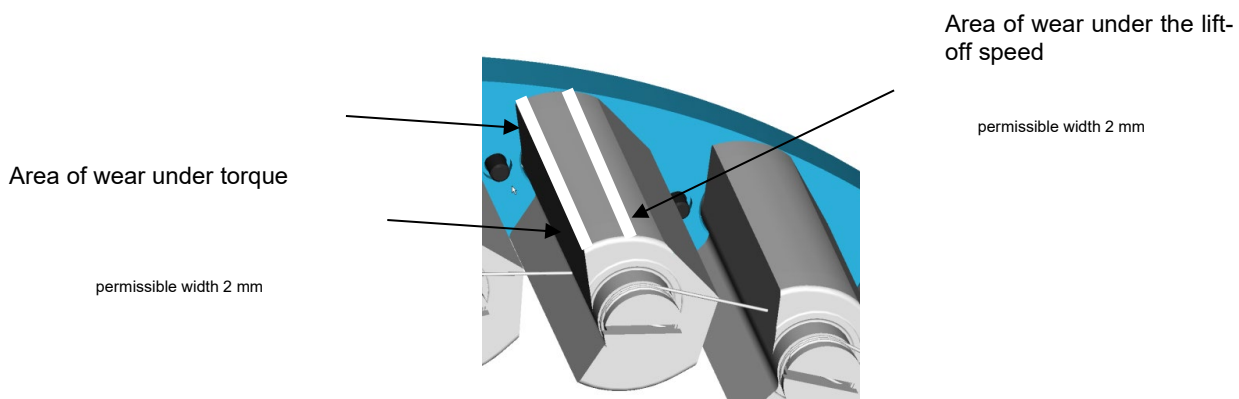

Figure 8: wear zones
- Pre-clean the outer race (1) and cage (8) with a petroleum-based industrial cleaning agent and degrease with an acetone-based cleaning agent.
- Maximum width of the wear facet on the clamp bodies (see Figure 8)